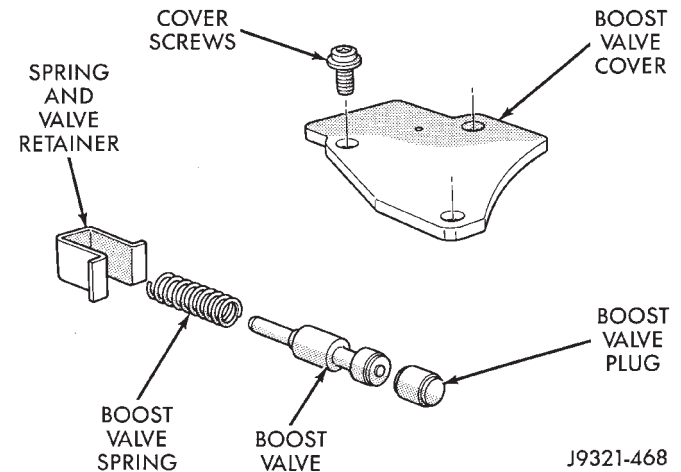

Fig. 71 Boost Valve Components
(12) Remove boost valve retainer, valve spring and boost valve (Fig. 71).